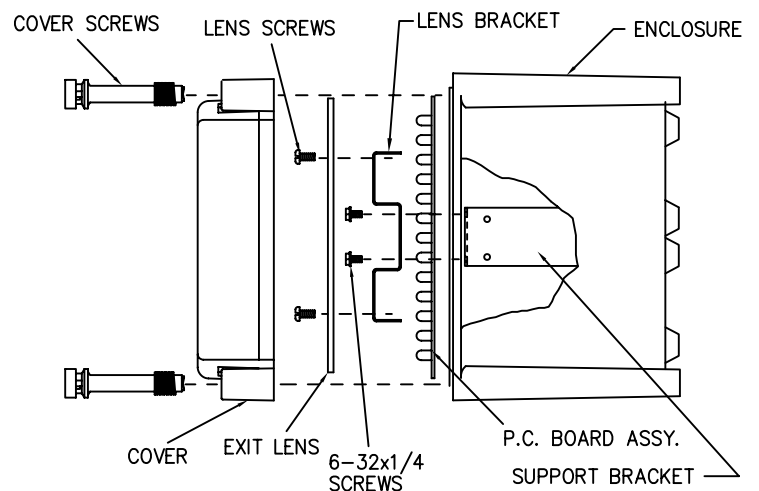

FIGURE 2
2. Remove cover, exit lens, lens brackets and p.c. board assy. (Fig. 2)